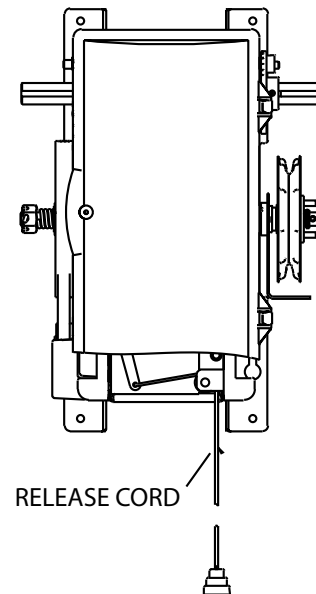

Fig. 13
6. Install release cable. Fig. 13.